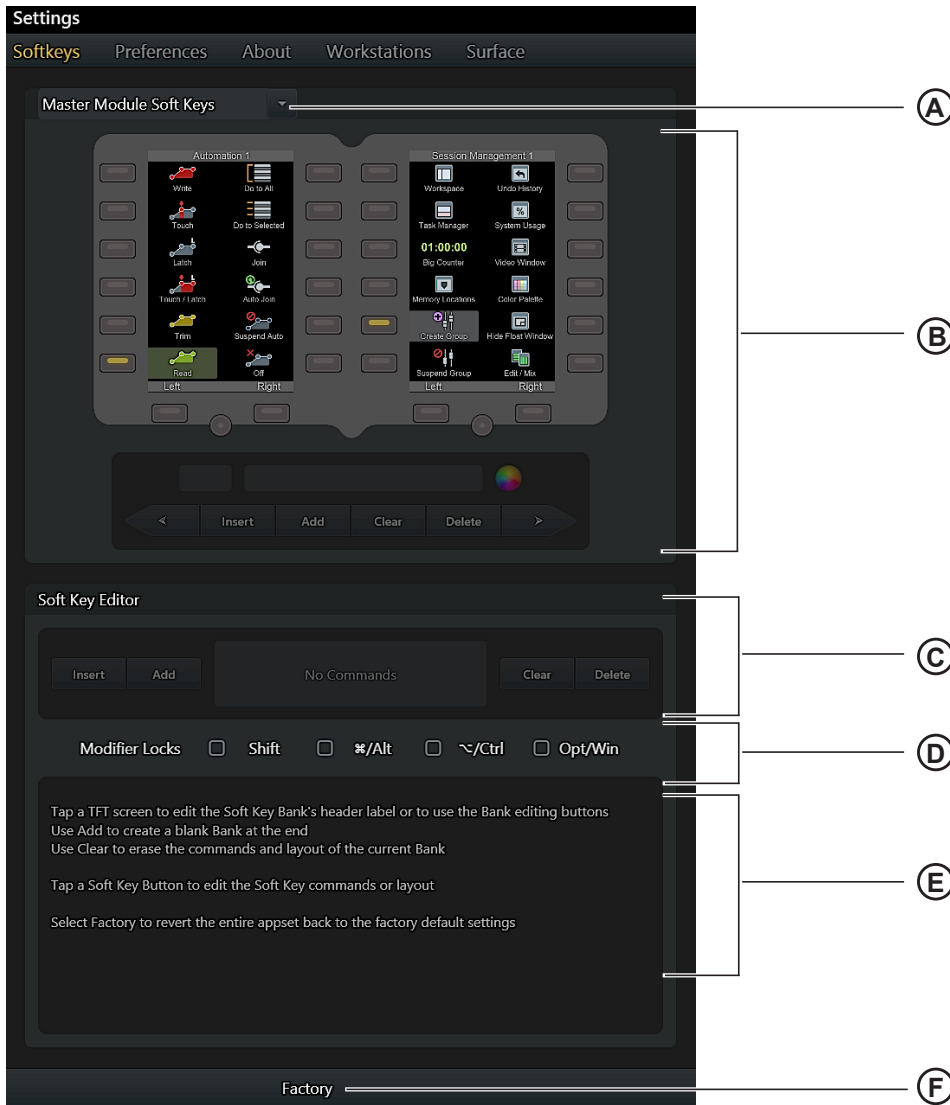

Figure 44. Soft Key Editor default screen
- 3 Use the Help Text instructions at the bottom of the default Soft Key Editor page (see Figure 44 on page 52).